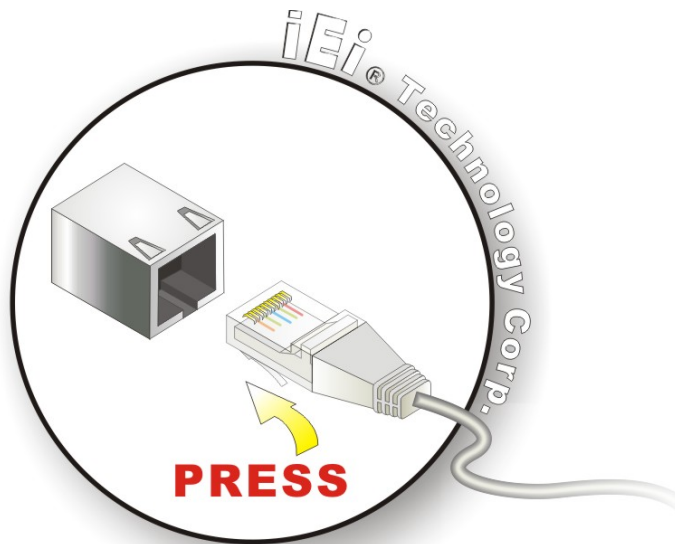

Figure 4-15: LAN Connection
Step 2: Align the connectors. Align the RJ-45 connector on the LAN cable with one of the RJ-45 connectors on the IMB-Q670. See **Figure 4-15**.